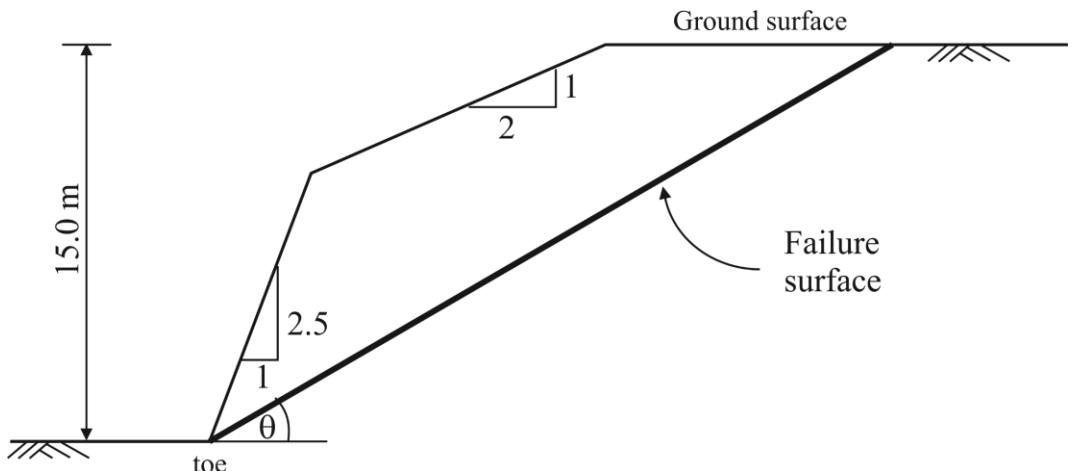

Figure Q4
4. A design for a road cutting should assess the stability of an excavated slope, with its geometry shown in Figure Q4. The 15 m high slope is shallower over the top one third of the slope height, with a gradient 1:2 (vertical to horizontal, V:H). It then becomes steeper, with a gradient 2.5:1 (V:H) all the way to the toe. The ground conditions comprise an over-consolidated stiff clay, which is characterised by an undrained shear strength, S_u , and a saturated bulk unit weight $\gamma = 18 \text{ kN/m}^3$.
In your solution, you should apply the Limit Equilibrium method of analysis and assume that the Tresca failure criterion is mobilised along the assumed planar failure surface depicted in Figure Q4.
- Resolve the forces identified in (a) into the directions parallel and normal to the assumed failure surface and write the appropriate force equilibrium equation for each of the two directions. Calculate the critical value of the angle θ shown in Figure Q4 and of the magnitude of S_u in the clay that would satisfy the stability requirement of this slope for the assumed failure surface. (9 marks)